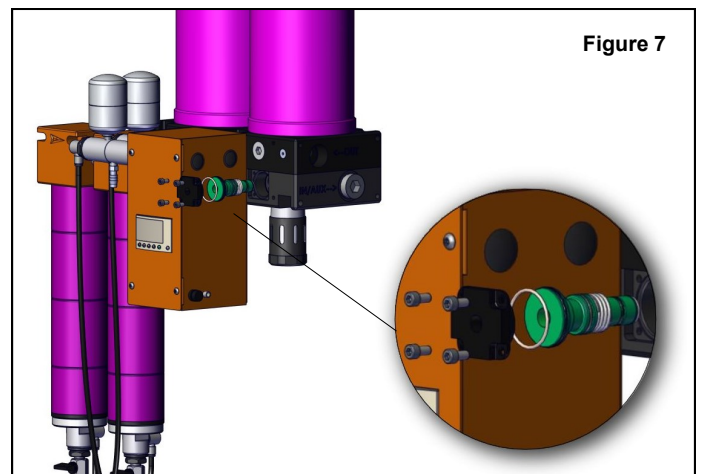

Figure 7
2. Using a 4mm hex key wrench, remove the four socket head cap screws holding the piston cover in place. Figure 7
4. Using a finger or a 1/2-13 bolt, remove the piston from the piston bore. Be sure to remove the piston spring. Figure 7